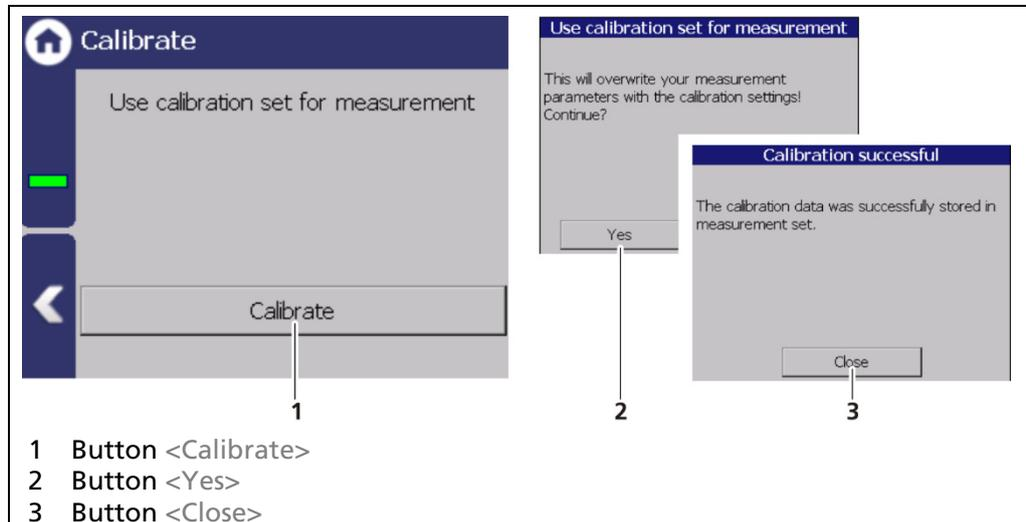

Fig. 84 Calibrate
1. Click on the button <Calibrate> (Fig. 84, item 1).
2. Click on the <Yes> button (Fig. 84, item 2) to overwrite your measurement parameters with the calibration settings.
3. Click on the <Close> button (Fig. 84, item 3)